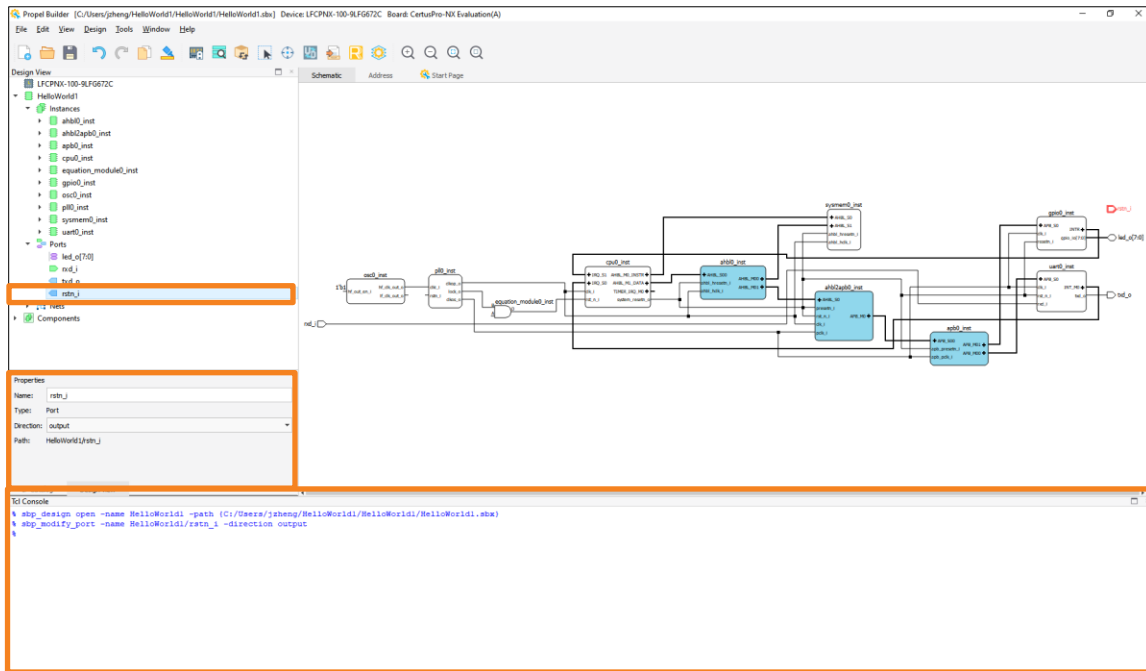

Figure 2.121. Port Direction
- b. Port direction can be modified. You can use the drop-down menu to choose the desired port direction. TCL command is shown in **Design View** (Figure 2.121).
- c. Port width can only be modified if it is already multi-bit. An error message is prompted out or shown in TCL Console, if the input value does not meet rules (Figure 2.121).